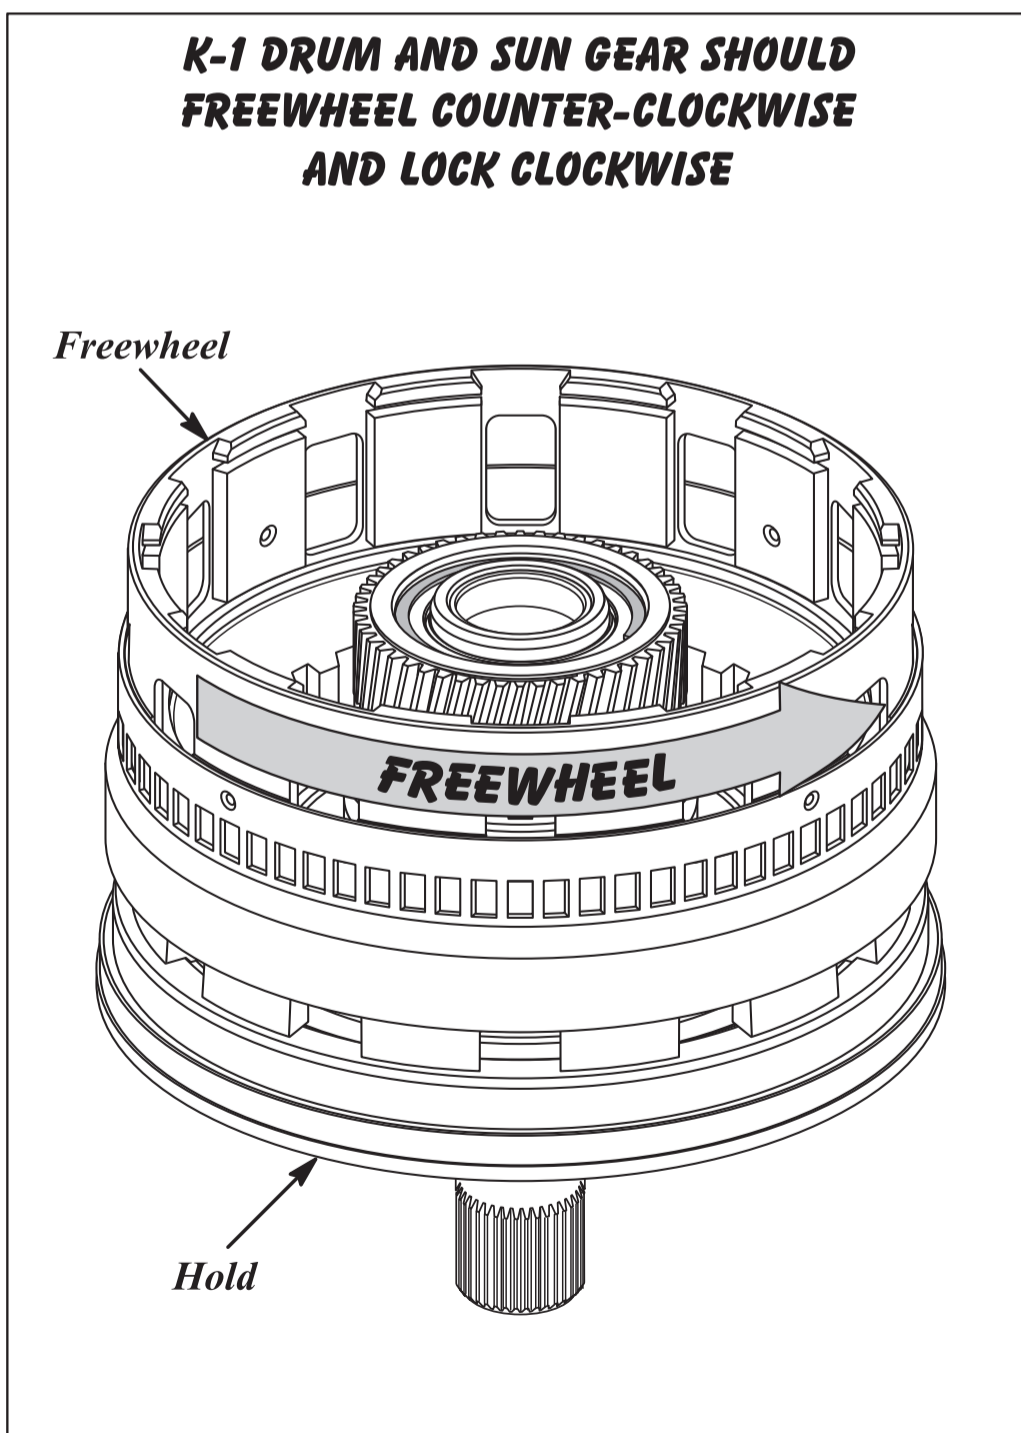

Figure 90
13. Install the K-1 clutch housing onto the B-1 clutch housing, as shown in Figure 90.
14. The K-1 clutch housing should freewheel in counter-clockwise direction and lock in the clockwise direction, as shown in Figure 90.